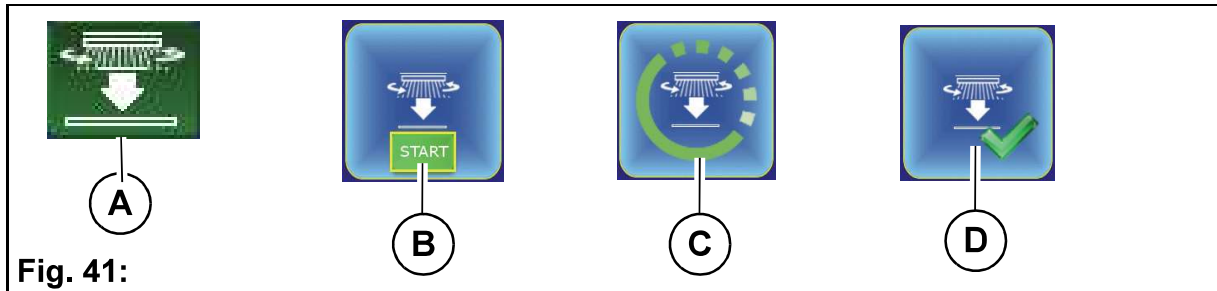

Fig. 41:
2. Select soft key *Eject brushes* **Fig. 41-A** using the turn-push knob and confirm. The action window **Fig. 41-B** opens. Confirm the start with the turn-push knob.
The procedure starts and symbols **Fig. 41-C, D** appear on the MFD one after the other. Only now is the procedure complete.